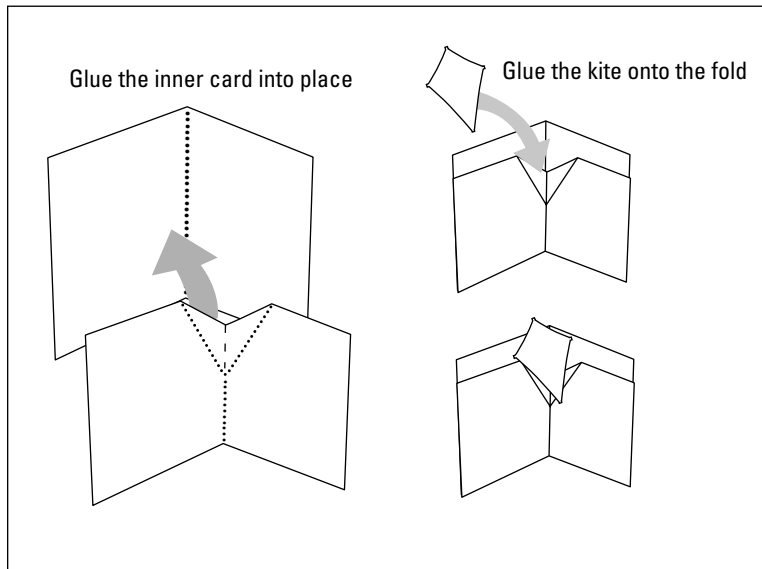

Figure 6-21:
5. Use a glue stick to glue the inner card into the outer card, lining up the bottom edges (check out Figure 6-21).
6. Glue the kite into place with the glue stick (Figure 6-21).